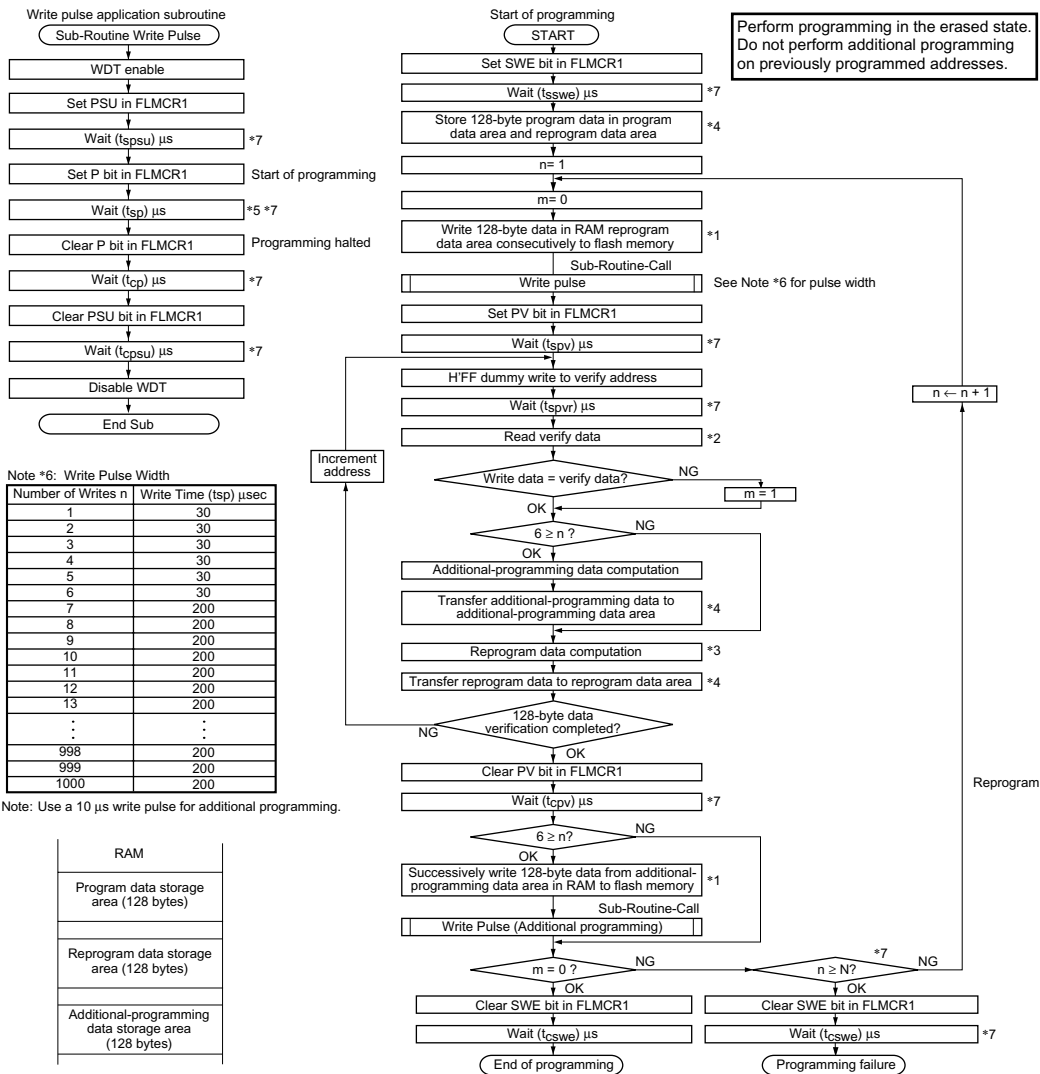

Figure 18.13 Program/Program-Verify Flowchart (128-Byte Programming)
To write data or programs to flash memory, the program/program-verify flowchart shown in figure 18.13 should be followed. Performing program operations according to this flowchart will enable data or programs to be written to flash memory without subjecting the device to voltage stress or sacrificing program data reliability. Programming should be carried out 128 bytes at a time.
After the elapse of the given programming time, clear the P bit in FLMCR1, then wait for at least (t_{cp}) μ s before clearing the PSU bit to exit program mode. After exiting program mode, the watchdog timer setting is also cleared. The operating mode is then switched to program-verify mode by setting the PV bit in FLMCR1. Before reading in program-verify mode, a dummy write of H'FF data should be made to the addresses to be read. The dummy write should be executed after the elapse of (t_{spv}) μ s or more. When the flash memory is read in this state (verify data is read in 16-bit units), the data at the latched address is read. Wait at least (t_{spvr}) μ s after the dummy write before performing this read operation. Next, the originally written data is compared with the verify data, and reprogram data is computed (see figure 18.13) and transferred to RAM. After verification of 128 bytes of data has been completed, exit program-verify mode, wait for at least (t_{cpv}) μ s, then determine whether 128-byte programming has finished. If reprogramming is necessary, set program mode again, and repeat the program/program-verify sequence as before. The maximum value for repetition of the program/program-verify sequence is indicated by the maximum programming count (N). Leave a wait time of at least (t_{cswe}) μ s after clearing SWE.
6. The program/program-verify flowchart for the H8/3048F-ONE is shown in figure 18.13.